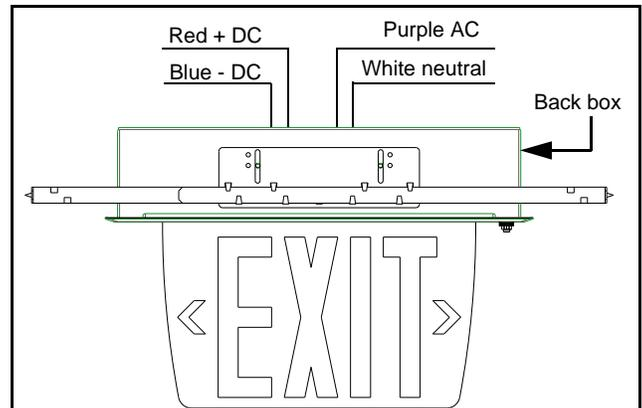

Figure 3 (Regular models)
- b. Make the proper connections (see figure 3). This unit can accept input voltages of 120 VAC to VAC. For regular models connect the purple (line) and white (common) leads to the building utility (Figure 3).